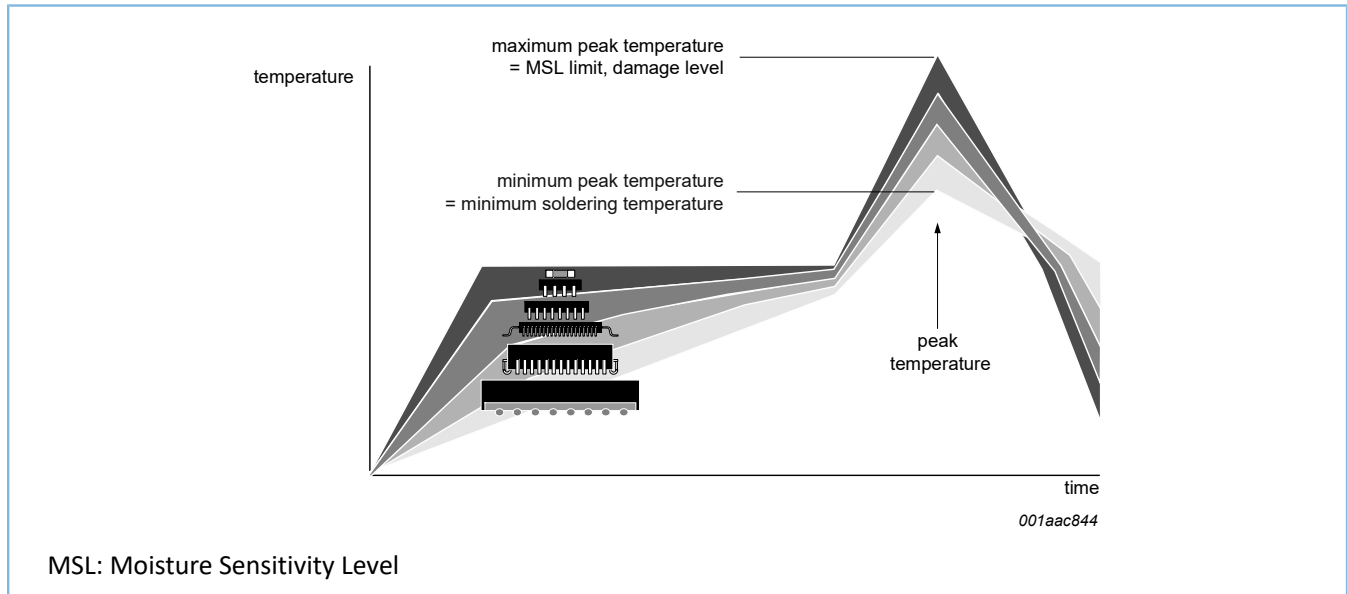

Figure 12-1: Temperature profiles for large and small components
- Lead-free versus SnPb soldering; note that a lead-free reflow process usually leads to higher minimum peak temperatures (see Figure 12-1) than a SnPb process, thus reducing the process window
Studies have shown that small packages reach higher temperatures during reflow soldering, see Figure 12-1.